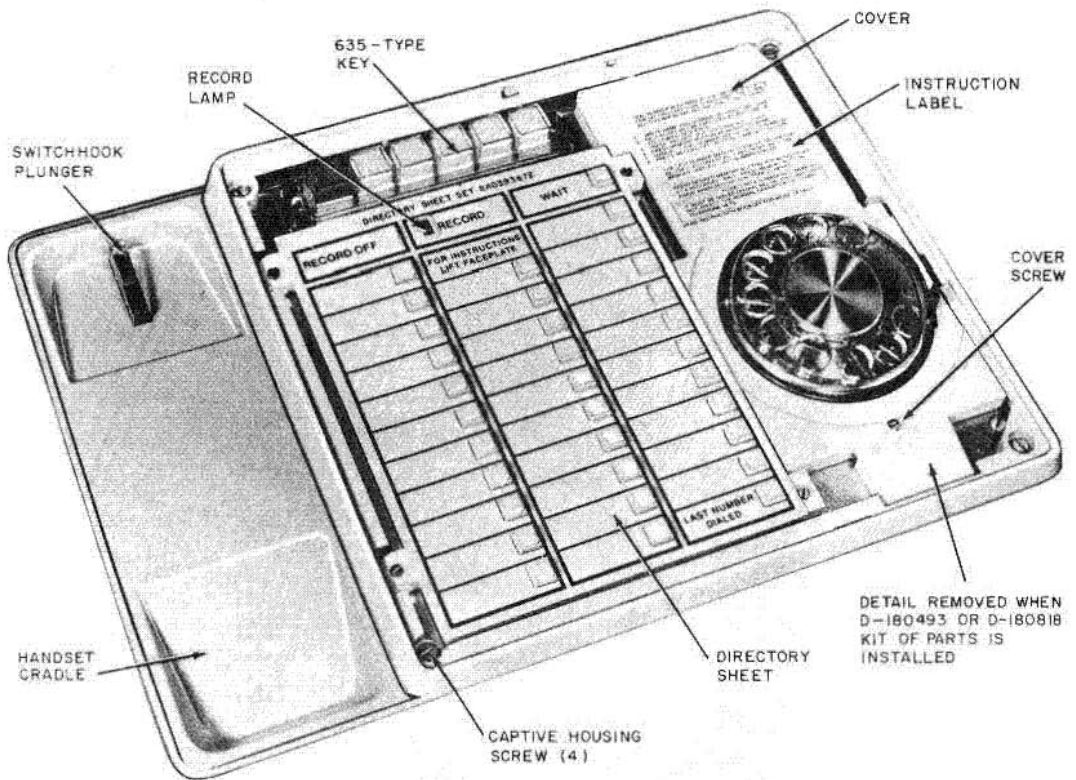

Fig. 2—872A1M Telephone Set—Faceplate and Handset Removed
### 2.06 Operating Features (Fig. 2).
**3.05** The directory sheets (Fig. 2) fit over the buttons of the memory and are held in place by the faceplate. Additional sheets are available in directory sheet set, 840393672.